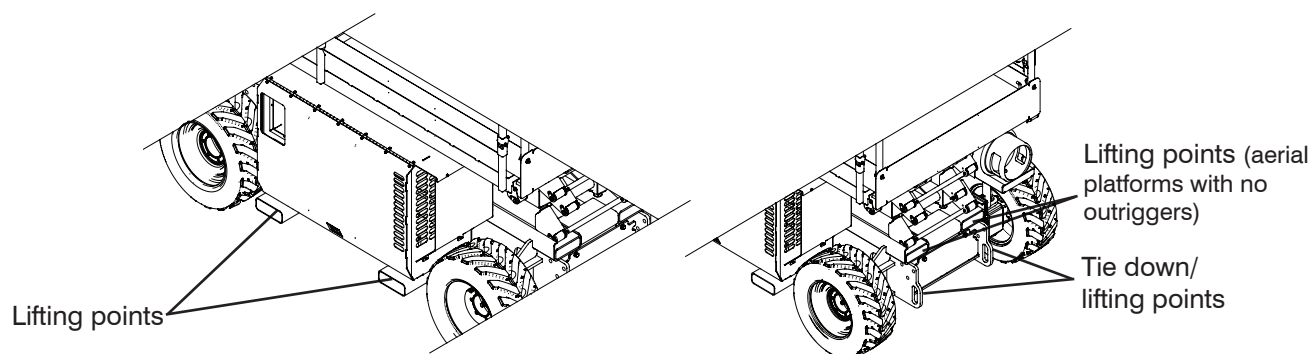

Figure 3-9. Tie Downs/Lifting Points
- The lifting/rigging may be attached to all twelve lifting points as illustrated in Figure 3-9.
**When transporting, the aerial platform must be secured to the truck or trailer deck. Tie downs are available as illustrated in Figure 3-9.**